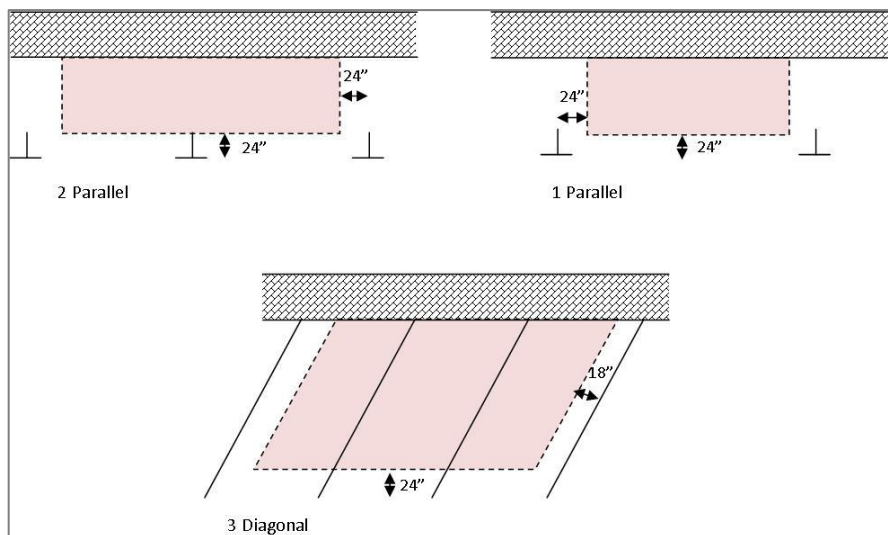

Figure 2 Parking space use – not to scale
- For parklets proposed on parallel parking spaces, a maximum of two (2) parking spaces shall be used. For proposals using angled parking spaces, a maximum of three (3) parking spaces shall be used. For proposals using perpendicular parking spaces, a maximum of three (3) parking spaces shall be used. Refer to Figure 2 for details.